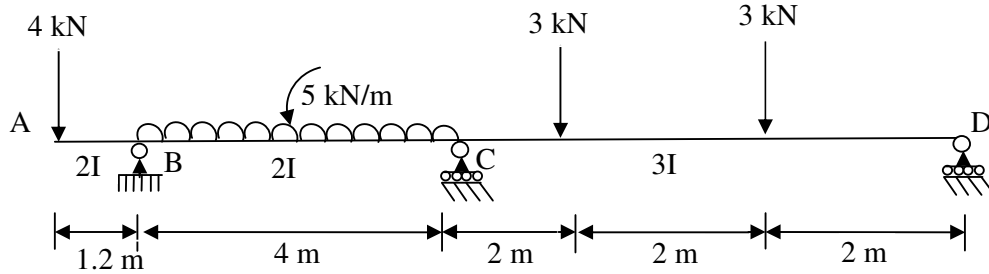

Figure 4
4. Analyze the continuous beam shown in Figure 4, by slope-deflection method.